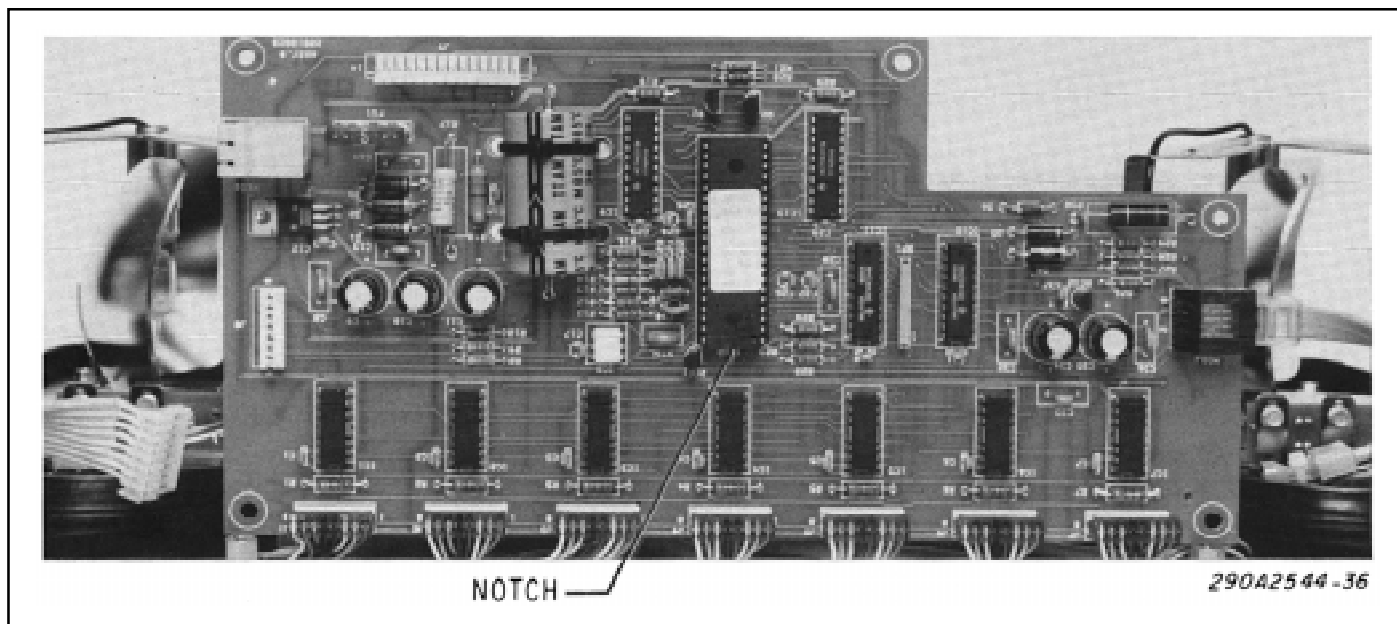

Figure 3-4. Bar Control Microprocessor.
6. See figure 3-4. Insert the new microprocessor IC ("BC" in the part number) in the empty socket. Ensure that the notch on the new micropro